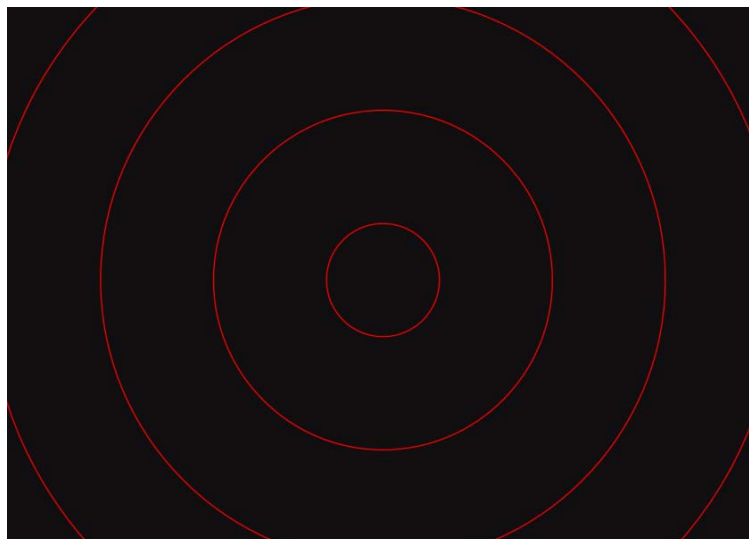

Figure 5-40 Circle Ruler
- (5) Circle Ruler : A concentric circle-shaped ruler on the screen that marks the interval between the input values, as shown in Figure 5-40.